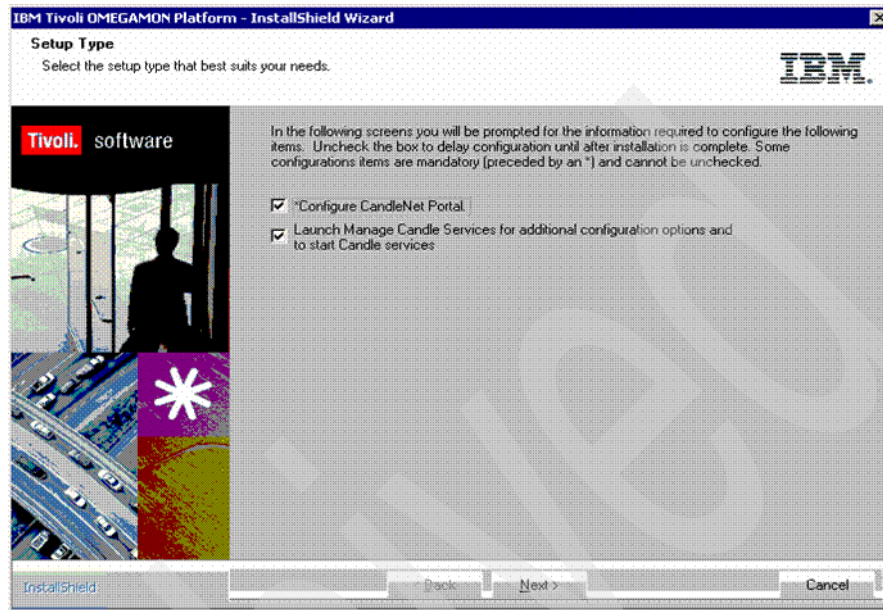

Figure 3-40 Configuration option
5. When the installer has completed the process, you can start configuring the product as shown in the option in Figure 3-40.